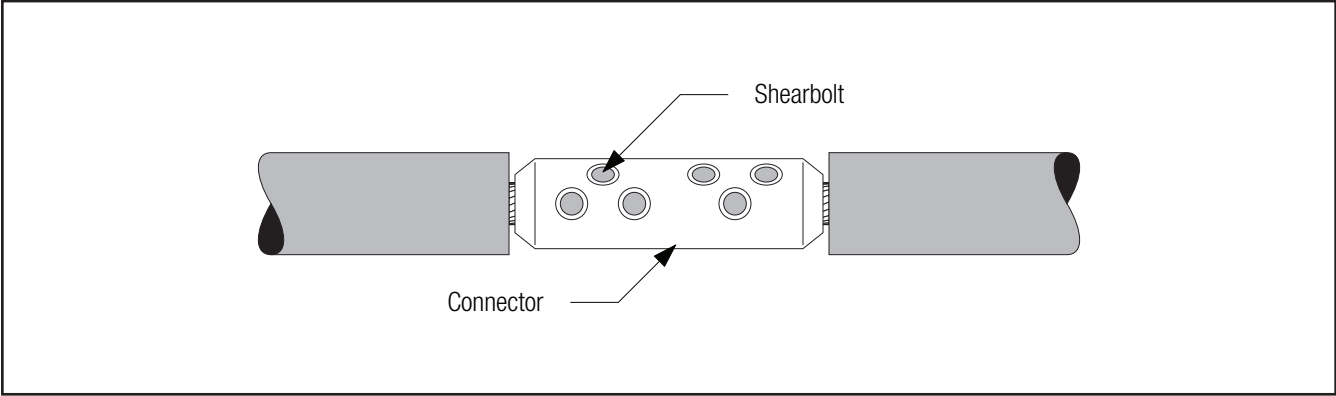

Figure 9
3.2 Install 3M™ Shearbolt Connector QCI 350-750 according to the instructions included with the connector (Figure 9).